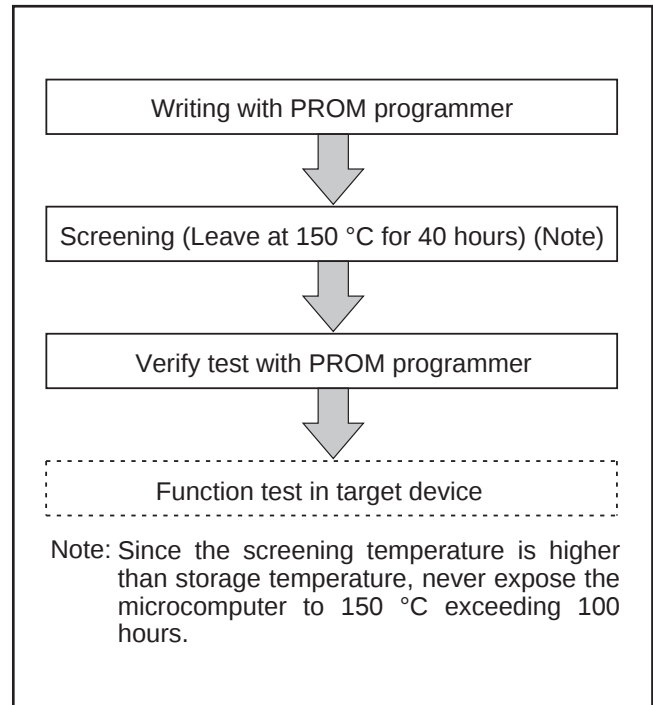

Fig. 31 Flow of writing and test of the product shipped in blank
- ① A high-voltage is used for writing. Take care that overvoltage is not applied. Take care especially at turning on the power.
- ② For the M34280E1FP/GP, Mitsubishi Electric corp. does not perform PROM writing test and screening in the assembly process and following processes. In order to improve reliability after writing, performing writing and test according to the flow shown in Figure 31 before using is recommended.